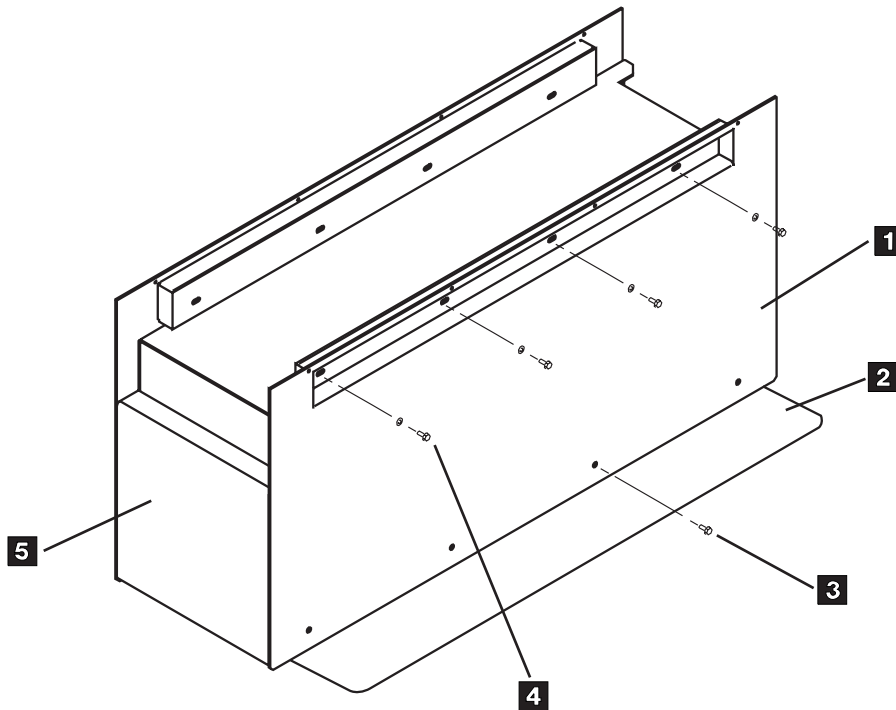

Figure 205. View of Desk Side Lower Sleeve Installed on Base Plate
- ___ 1. See Figure 205 on page INST-30.